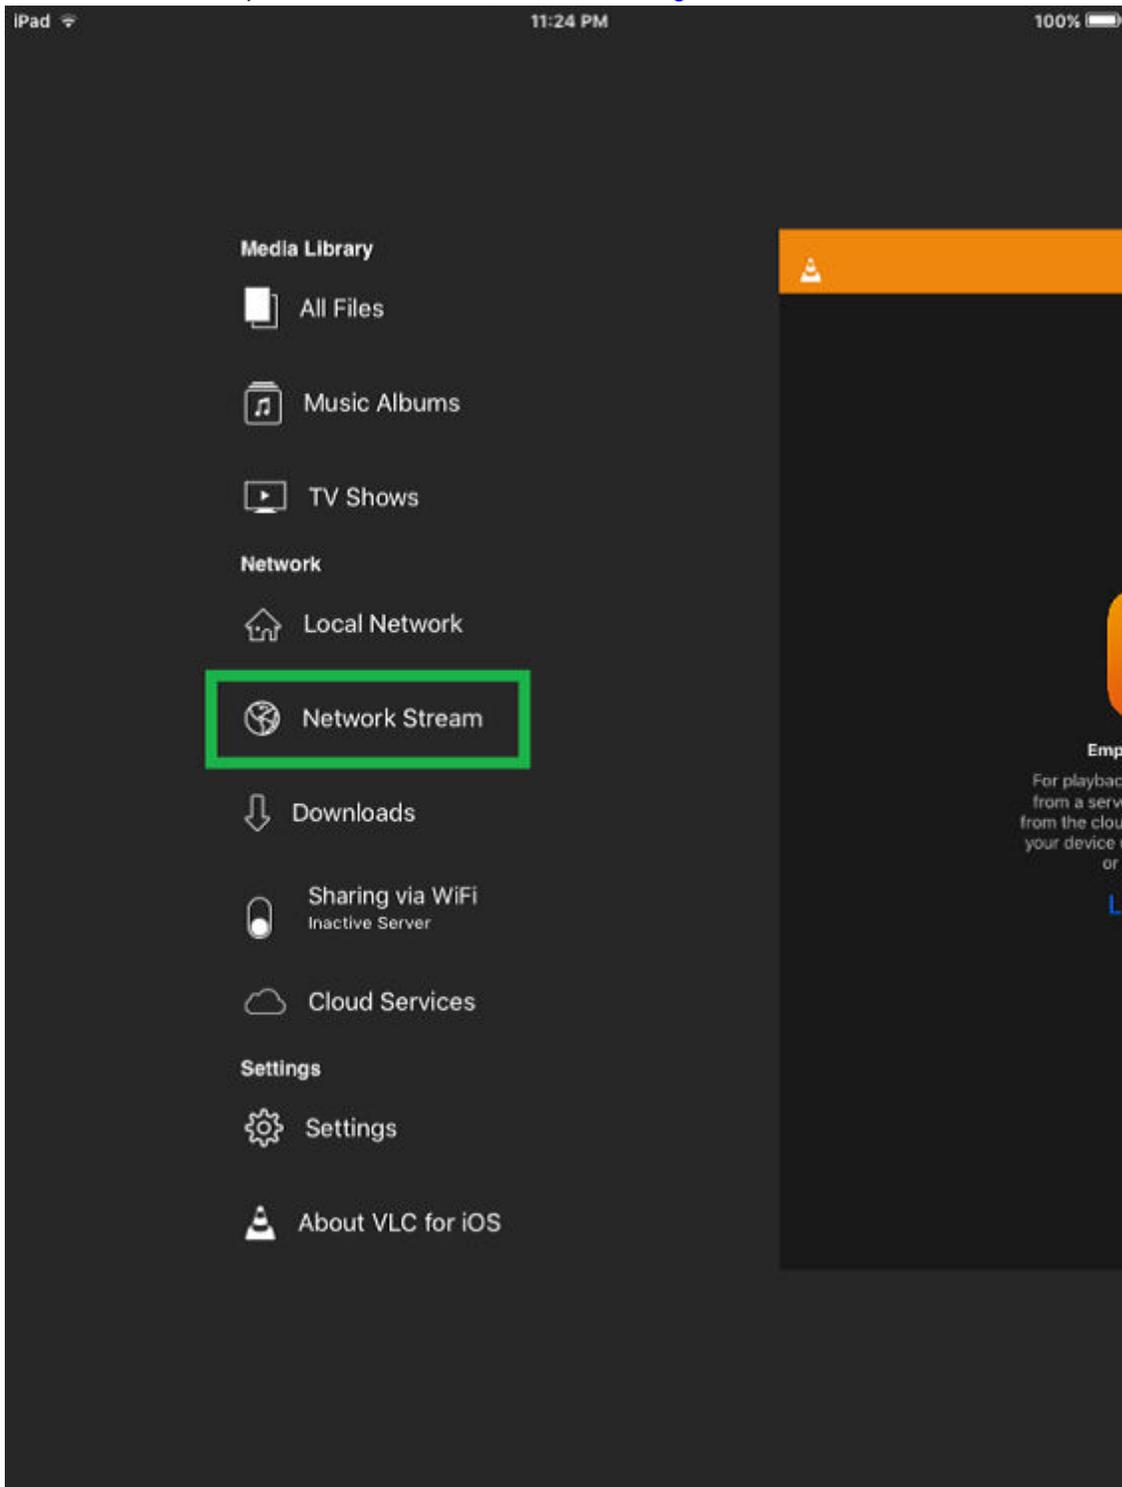

Figure 3-9. Open Network Stream
2. Run VLC, and Choose Open Network Stream, as shown in Figure 3-9.